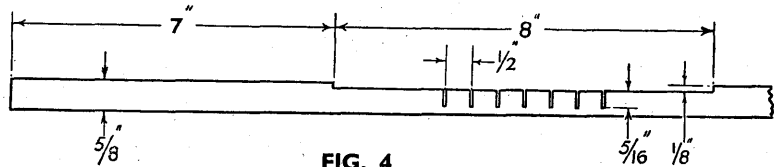

FIG. 4
taining thin wood, the upward bend can be formed by making a series of saw kerfs across the width of the board as shown in Fig. 4. There is no point in endeavouring to obtain a continuous curve right up to the front end of the board; it will be just as effective if the front portion is flat as indicated. It will be found that about seven kerfs made with a tenon saw and spaced $\frac{1}{2}$ in. apart and $\frac{5}{16}$ in. deep (assuming that the board is $\frac{5}{8}$ in. thick) will suffice to enable the bend to be made. In order to retain the curve, a piece of hardwood (A, Fig. 7) $\frac{1}{8}$ in. thick is inlaid into the face of the board in the region of the bend. The recess for this inlay should be made before bending.
- FIG. 4. Side elevation of board before bending